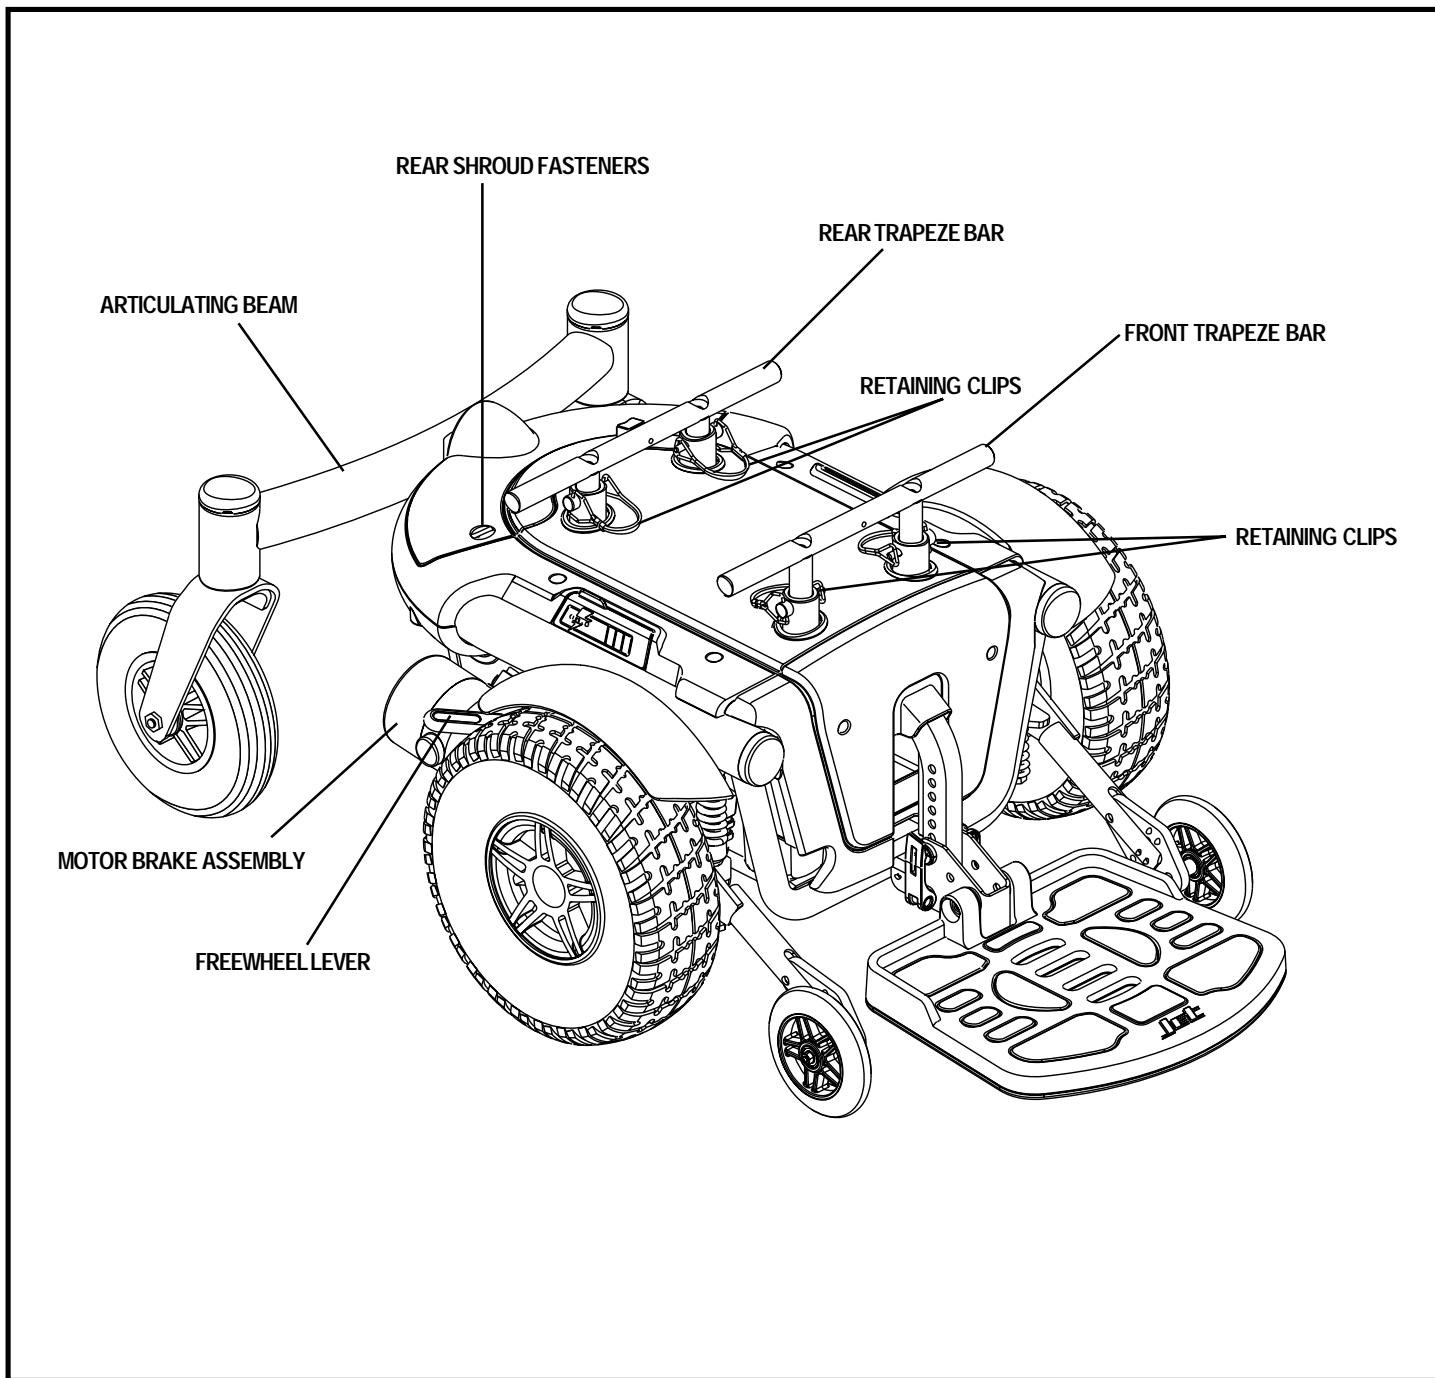

Figure 6. The Jet 3 Ultra Power Base
6. Turn the rear shroud fasteners one-quarter turn in any direction. See figure 6.
2. Loosen the rear shroud fasteners and remove the rear shroud. See figure 6.